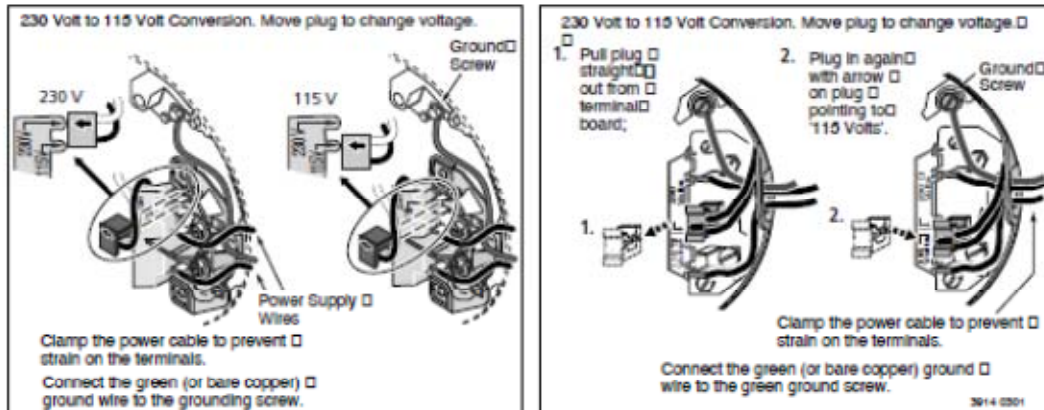

FIGURE 3 - 115/230V Dual Voltage Single Phase Wiring Diagram - ODP Motors
7. Connect current carrying conductors to terminals L1 and L2 under motor canopy. When replacing motor, check wiring diagram on motor nameplate against Figure 3. If the motor wiring diagram does not match either diagram in Figure 3, follow the diagram on the motor.
IMPORTANT: 115/230 Volt single phase models are shipped from factory with motor wired for 230 volts. If power supply is 115 volts, remove motor canopy and reconnect motor as shown in Figure 3. Do not try to run motor as received on 115 volt current.